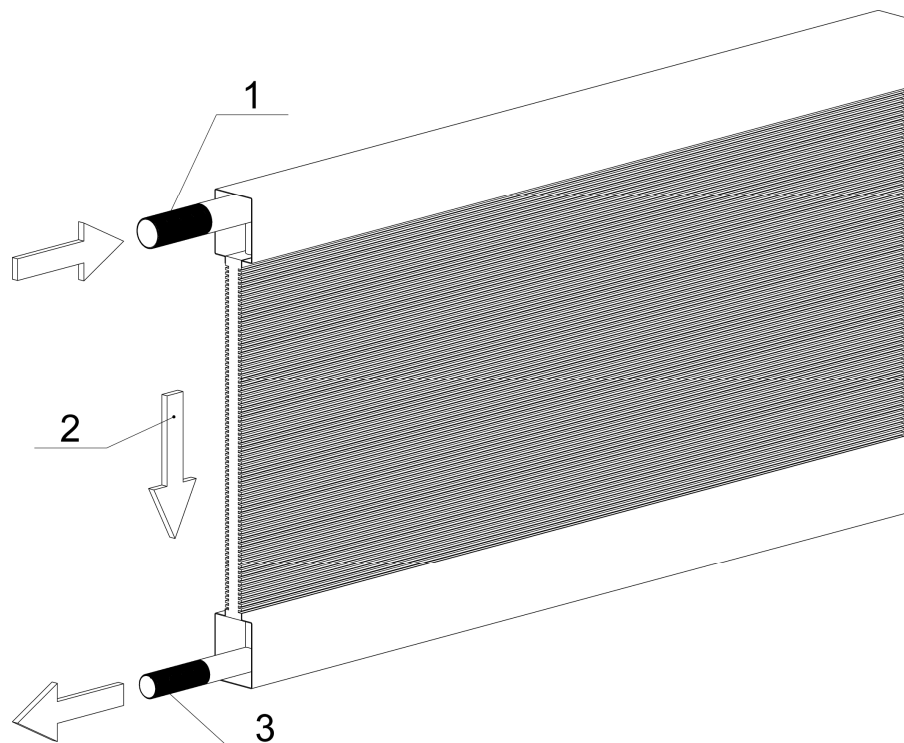

Figure 6.3.5.1 - Steam heater.
2. Connect coil with steam to the upper pipe and the return to the lower pipe (Figure 6.3.5.1).